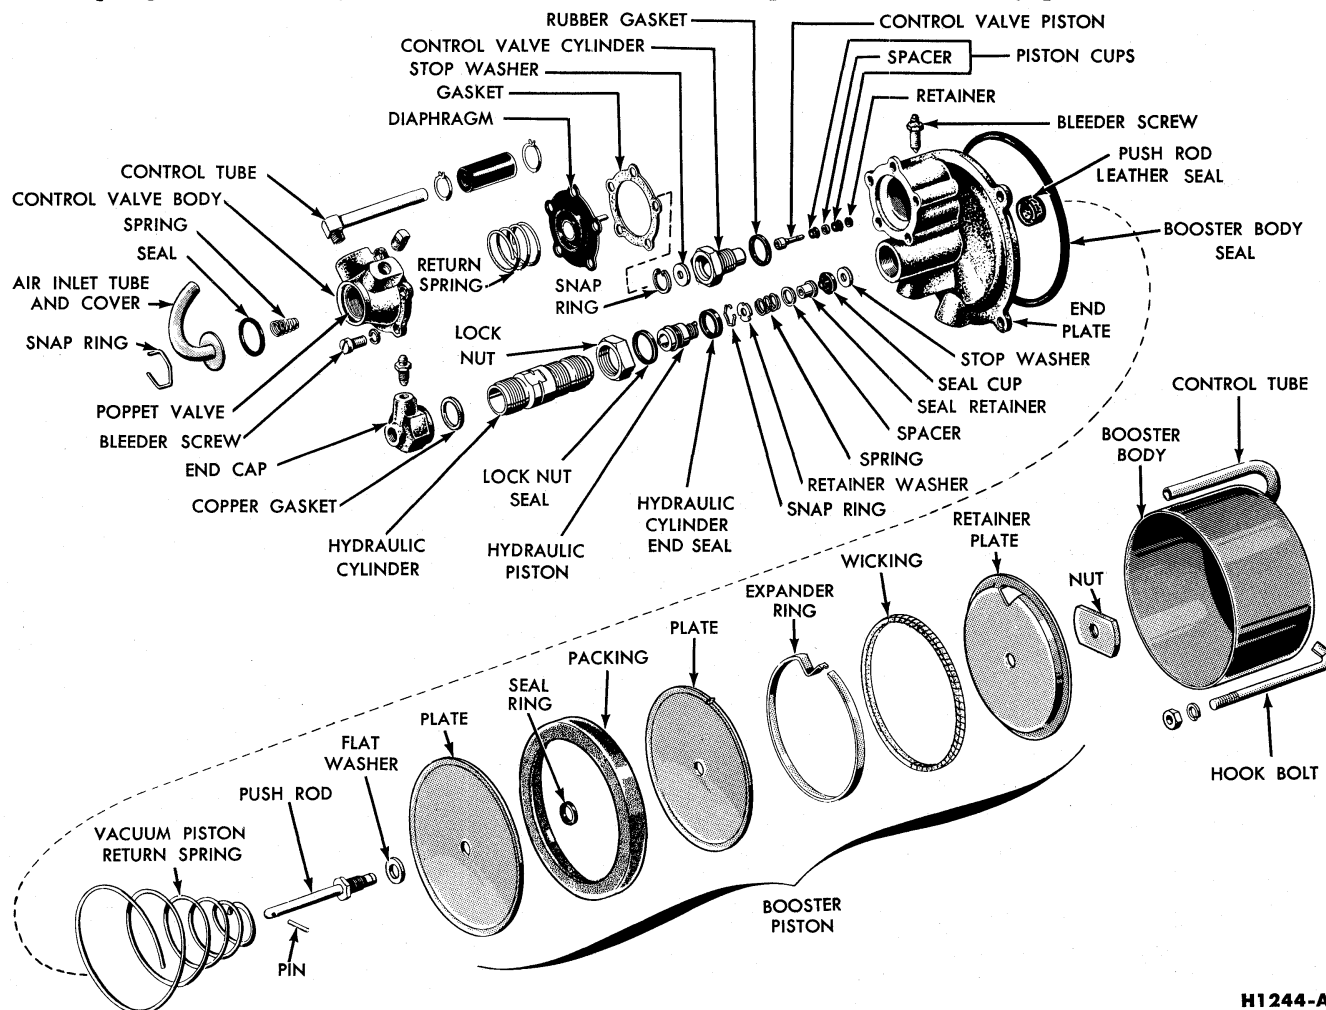
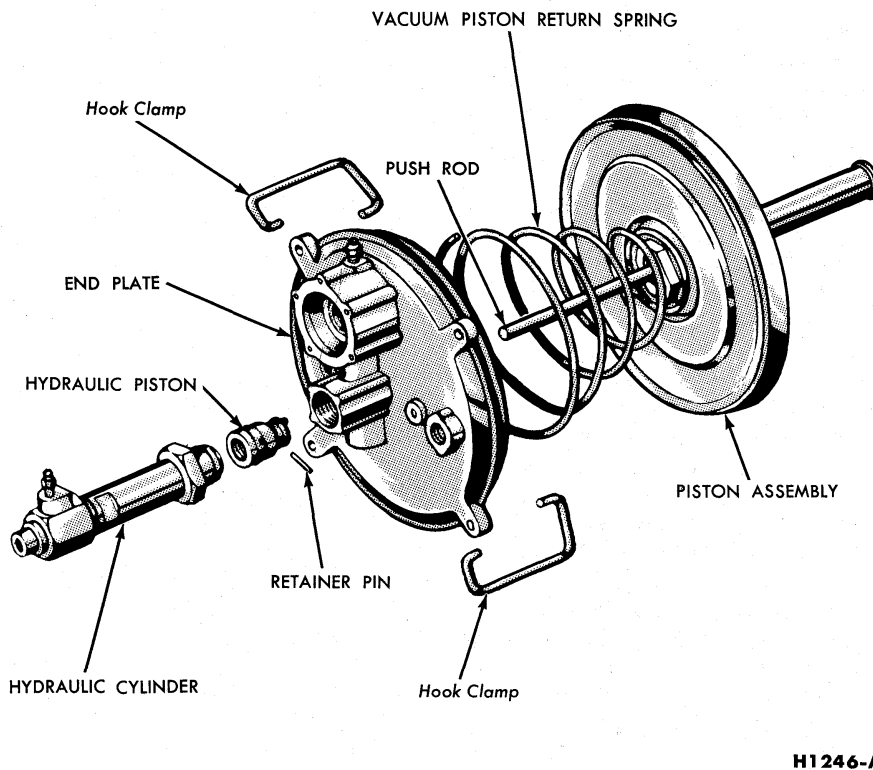

FIG. 30—Piston Type 6 $\frac{3}{4}$ -Inch Booster—Disassembled
FIG. 32—Vacuum Piston, End Plate, and Hydraulic Cylinder
1. Loosen the control tube hose clamps and slide the hose off the end of the tube (Figs. 30 and 31).
5. Unscrew the hydraulic cylinder from the end cap, then remove the lock nut and seal from the cylinder. Remove the bleeder screw and copper gasket from the end cap then remove the end cap from the vise (Figs. 30 and 31).
7. Compress the vacuum piston return spring by pressing down on the end plate and using hook-type clamps similar to those in Fig. 32. Hold the spring compressed.
then press the control valve piston assembly from the cylinder (Figs. 30 and 31). The piston should come out of the front end of the cylinder to avoid damage to the cups.
11. On a 6¾-inch booster, remove the small retainer, then remove the piston cups and spacer from the control valve piston (Fig. 30).
12. Remove the hydraulic cylinder end seal from the end plate (Figs. 30 and 31). Remove the snap ring, then remove the push rod seal cup parts from the end plate (6¾-inch—retainer washer, spring spacer, seal retainer, seal cup and stop washer as shown in Fig. 30). (9½-inch—washer, spring, retainer washer, seal cup, and stop washer as shown in Fig. 32.)
nut and disassemble the vacuum piston from the push rod (Fig. 30). Remove the flat washer.
and place the end cap in a vise. Thread the hydraulic cylinder into the end cap with the milled flats on the cylinder next to the end cap (Figs. 30 and 31). Place a wrench on the milled flats and tighten the cylinder securely.
4. On a 6¾-inch booster, dip the control valve piston seals in heavy duty brake fluid, assemble the seals on the piston with the spacer between the two seals, and secure with the C-type retainer (Fig. 30). The lip of each piston should point toward the retainer end of the piston. Insert the piston assembly into the control valve cylinder from the rear side of the cylinder. Install the stop washer at the front end of the cylinder against the piston, and secure in place with the snap ring.
6. To assemble the push rod seal cup parts (Figs. 30 and 31), insert the push rod through the leather seal at the rear side of the end plate. The rod will hold the parts in alignment as they are installed. Install the stop washer with the chamfered side toward the end plate, the seal cup with the lip of the cup away from the stop washer, the seal retainer with the flanged end next to the cup.
(i). Mount the vacuum piston and guide in a vise, at the hex portion of the guide. Place the vacuum piston return spring over the push rod with the small end of the spring next to the vacuum piston (Fig. 32).
12. Carefully guide the push rod through the leather seal of the end plate, compress the spring, and install the hook clamps to hold the spring compressed (Fig. 32).
20. Assemble a new rubber gasket in the groove of the end plate, and align the end plate with the booster body at the scribe marks. Install the hook bolts and tighten uniformly (Fig. 30).
Install the guide pins, position a new gasket and the diaphragm over the pins, then position the return spring in the recess of the diaphragm (Figs. 30 and 31).
25. Install the spring, the seal, and the air inlet tube and cover assembly to the control valve body and secure in place with the snap ring. (Figs. 30 and 31.)
26. Align the bleeder screw in the end cap with the bleeder screw in the end plate by manually turning the hydraulic cylinder in the end plate threads. While holding the hydraulic cylinder in this properly aligned position, securely tighten the cylinder lock nut (Figs. 30 and 31).